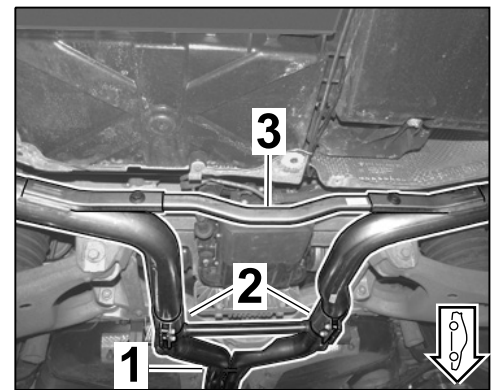

Figure 32
4.4.3 Fit left/right rear muffler with a new clamping sleeve –Ø 65 mm, 88 mm long– (2 ea.) on the front muffler (⇒ *Figure 32*).
4.4.5 Install transverse strut using new hexagon-head bolts (M8 x 25, 2 ea.) and square nuts (M8, 2 ea.) between the left and right rear muffler (⇒ *Figure 32*).